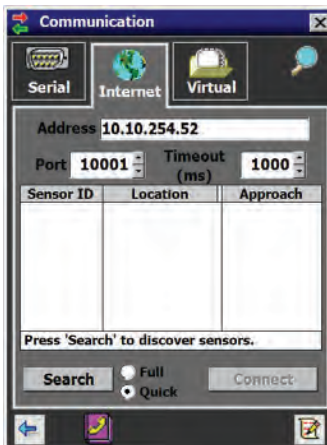

Figure 5.6 – Internet Connection Screen
- 2 Click the **Internet** tab and the Internet setting options will appear (see Figure 5.6).